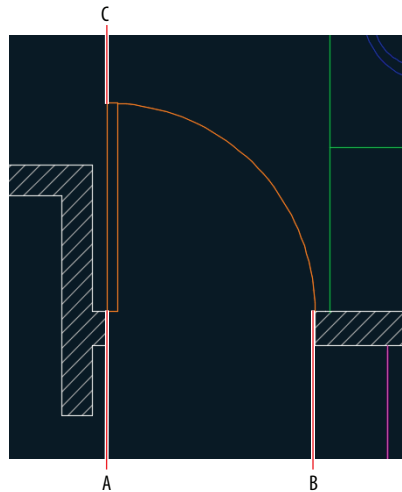

FIGURE 2.24 Drawing a door swing with an arc option
4. Type **INT**, press Enter to invoke the Intersection object snap, and click the center point A shown in Figure 2.24.